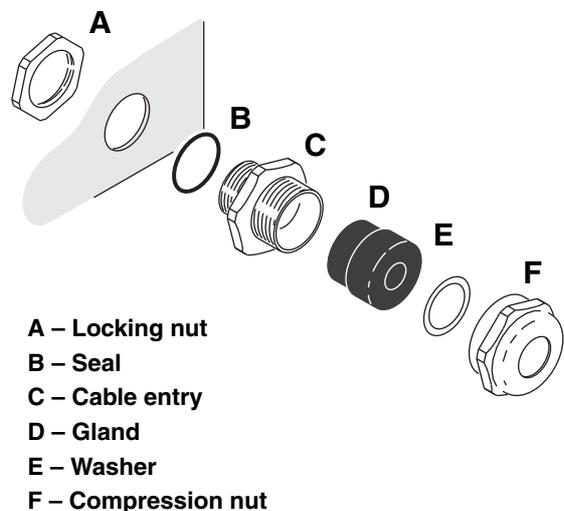

Figure 6: Cable gland assembly
1. See Figure 6. Ensure that there is a rubber seal **B** on the locking nut end of the cable entry **C**, and push this end through the hole provided in the housing so that the seal faces the outer surface of the housing.